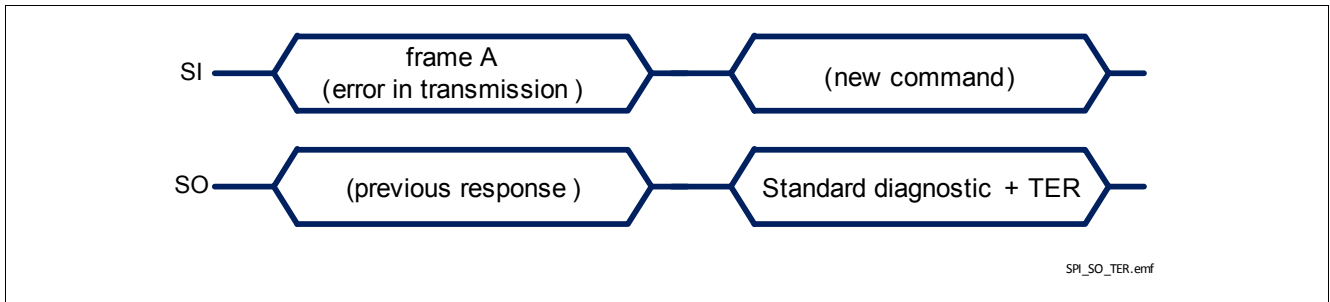

Figure 29 TLE75080-EMD response after a error in transmission
- in case an error in transmission happened during the previous frame (for instance, the clock pulses were not multiple of 8 with a minimum of 16 bits), shown in **Figure 29**